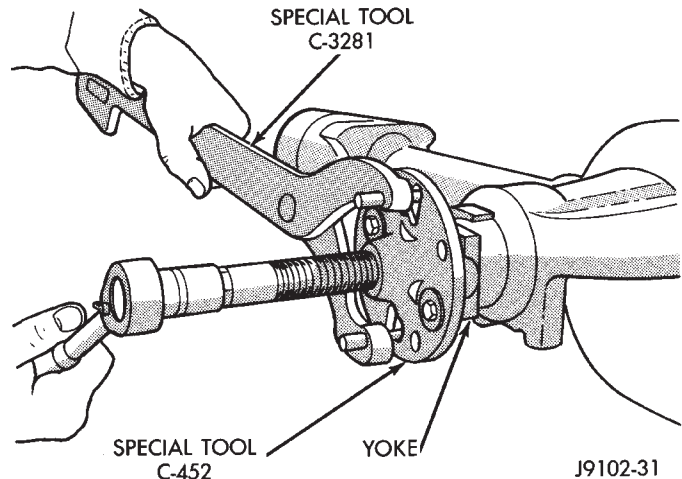

Fig. 17 Pinion Yoke Removal
- (9) Use Remover C-452 and Wrench C-3281 to remove the pinion yoke (Fig. 17).
- (10) Using Remover C-452 and Wrench C-3281, remove the pinion yoke from pinion shaft (Fig. 17).